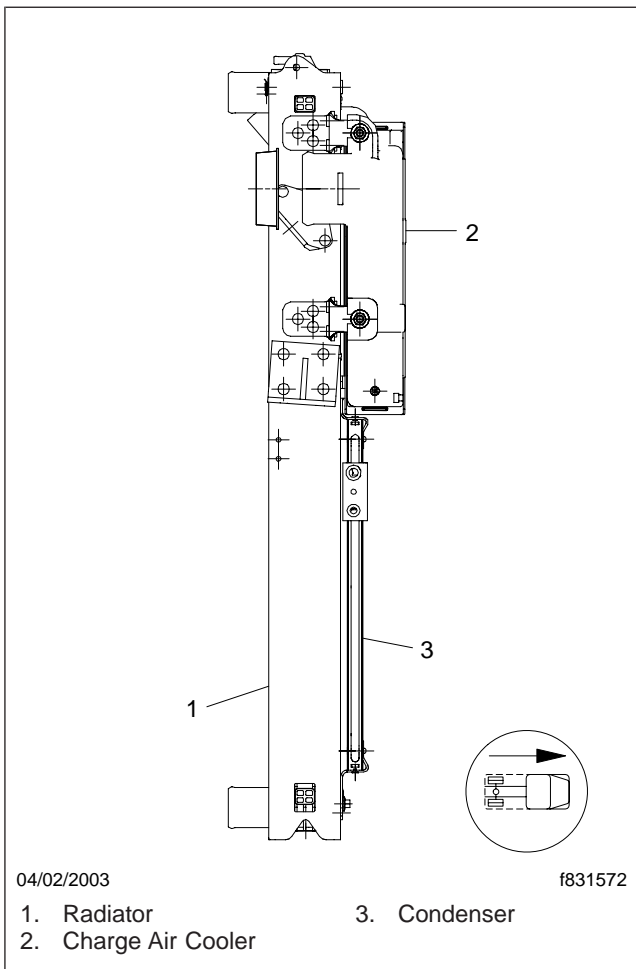

Fig. 2, Small Cooling Package
- **Small Cooling Package:** The condenser is mounted below the charge air cooler and does not cover the entire face of the radiator. See Fig. 2.